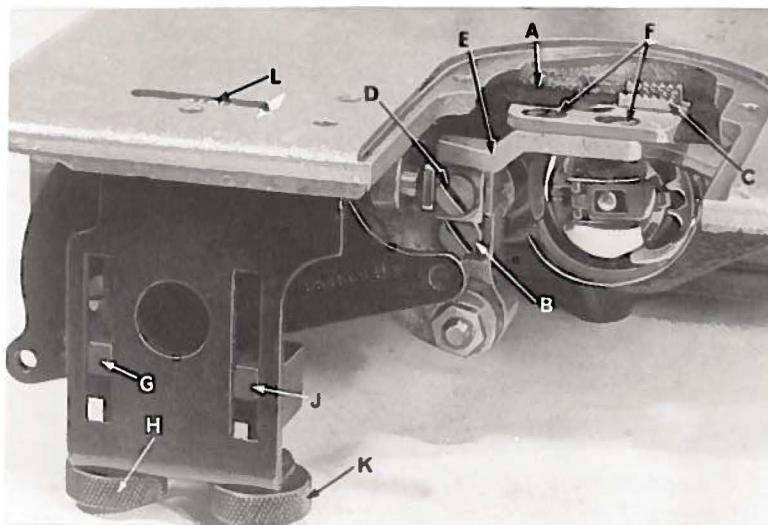

Fig. 14
The main feed dog (A, Fig. 14) should be set to rise the depth of a full tooth above the throat plate at the highest point of travel and center in the feed slots of the throat plate at maximum feed travel. To raise or lower the main feed dog, loosen screw (B) and set feed dog to specified height. Tighten screw. The feed bar has been set at the factory so the lateral, forward or backward settings of the main feed dog are established.
The differential feed dog (C, Fig. 14) should also be set to rise the depth of a full tooth above the throat plate at the highest point of travel and center in the feed slots of the throat plate at maximum feed travel. In addition to this the teeth of the differential feed should be parallel to the top surface of the throat plate across the line of feed.
Set the rear differential feed stop (G, Fig. 14) by turning screw (H) counter-clockwise for more differential or clockwise for less differential. Then set the front intermittent differential feed stop (J) by turning screw (K) clockwise for more gather and counterclockwise for a lesser gathering ratio. The differential gathering ratio can be read on dial (L) located in the bed plate.